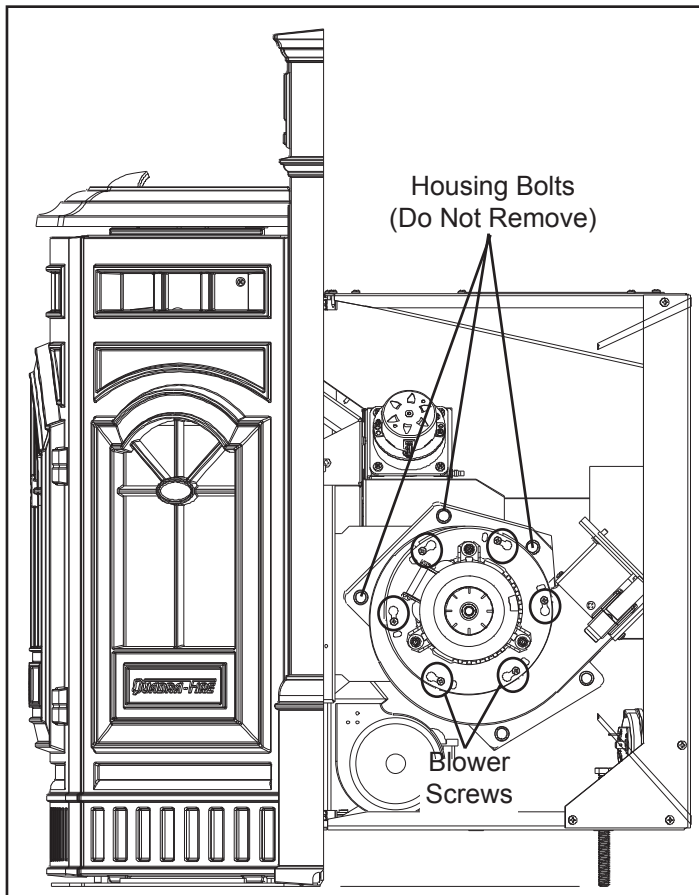

Figure 37.1
5. Remove blower mounting screws (not housing bolts), **Figure 37.1**, from blower housing and remove blower. The replacement blower is shipped with a housing. If you do not need the housing, discard it. If you do need to replace the housing you will also need to replace the gasket. See Service Parts List for the part number.